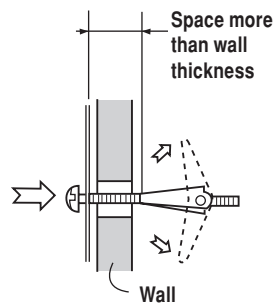

Figure 18
4. Position the Mounting Plate with the Toggle Bolts attached at the wall location and insert Toggle Nuts and Bolts through the holes in the wall with the Toggle Nuts closed. Figure 18. Use Wood Screws to attach the Mounting Plate to studs.